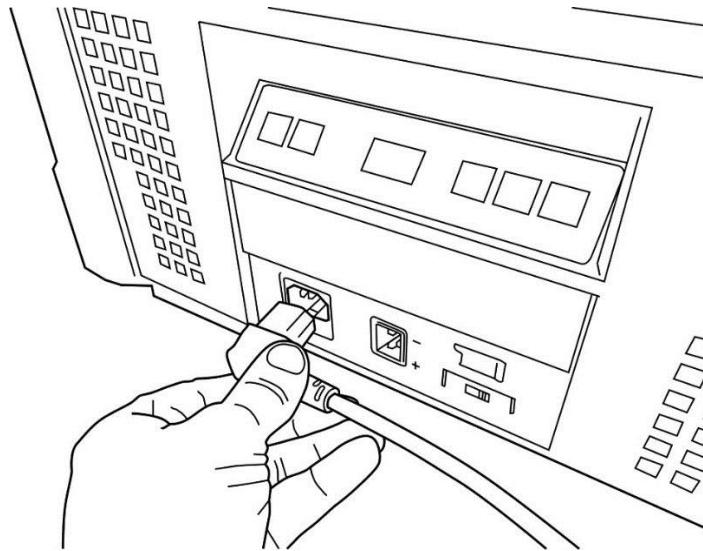

FIGURE 7.
- Plug the 100-240 V power lead into the AC power socket on the back panel of the fridge freezer as shown in Figure 7.